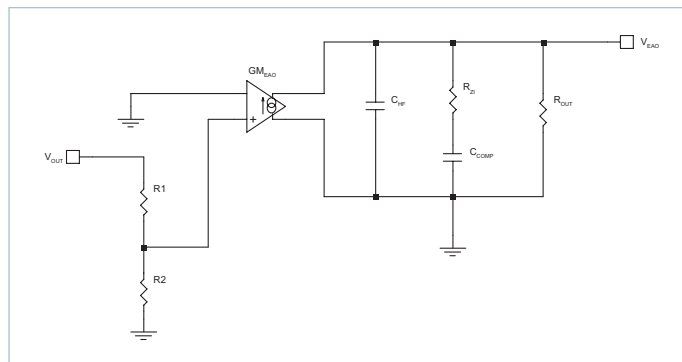

Figure 56 — PI354x-00 Error Amplifier Model
The small signal model of the error amplifier and compensator is shown in Figure 56. The error amplifier is a trans-conductance amplifier (TCA). The transfer function is shown in Equation (6), where in this example $R1 = 2.3k\Omega$, $R2 = 1k\Omega$, $GM_{EAO} = 5.1mS$, $R_{OUT} = 1Meg$, $C_{HF} = 56pF$, $C_{COMP} = 4.7nF$ and $R_{Z1} = 5k\Omega$. Here it is important to note that the external components are C_{COMP} , $R1$ and $R2$. The other components are internal to each specific model. See the data tables section “Soft Start, Tracking And Error Amplifier” for details.